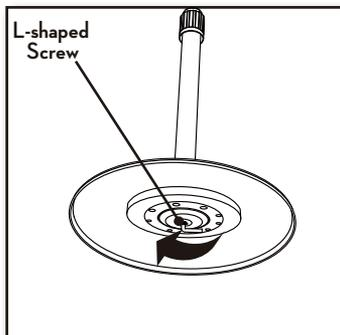

Figure 7
3. Insert the telescopic pole into the top of the base ring and base. Install the L-shaped screw with the metal ring through the weight support to the threaded hole in the bottom of the telescopic pole to secure the pole to the base. Figure 7.